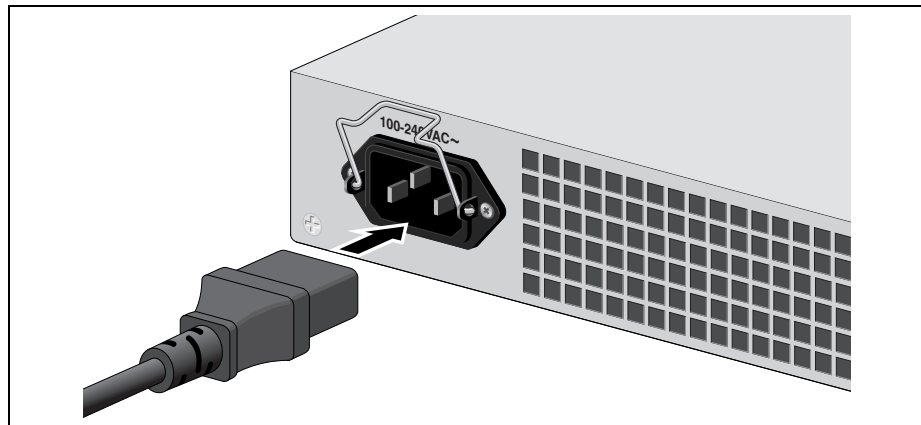

Figure 39. Connecting the AC Power Cord
2. Plug the power cord into the AC power connector on the rear panel of the unit (see Figure 39).